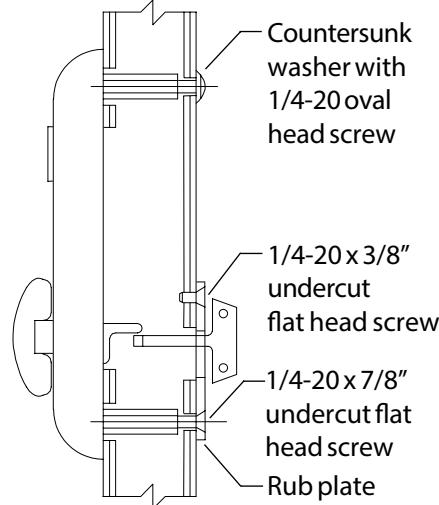

Figure 4. Control and rub plate application.
9. Apply control and rub plate to door and secure with screws (Figure 4).